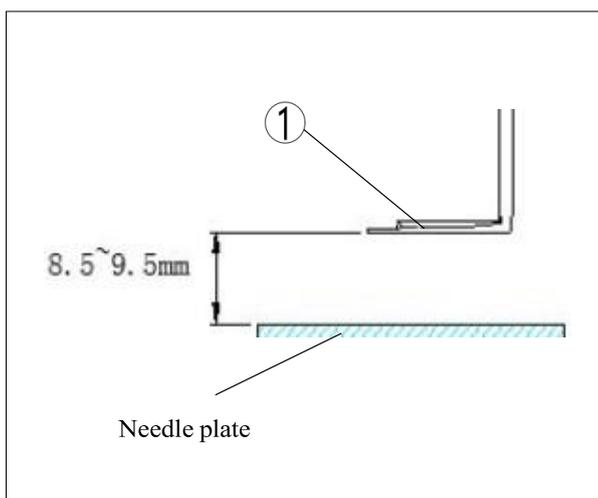

Figure 7-9
- (4) Adjust the distance from the top surface of the needle plate to the bottom surface of the upper feed needle① to 8.5–9.5mm, then tighten the adjustment screw ③. Note: To allow the decorative thread to pass behind the right needle and be picked up by the left needle, adjust within the range according to the width of the needle. (Figures 7-9, 7-10)